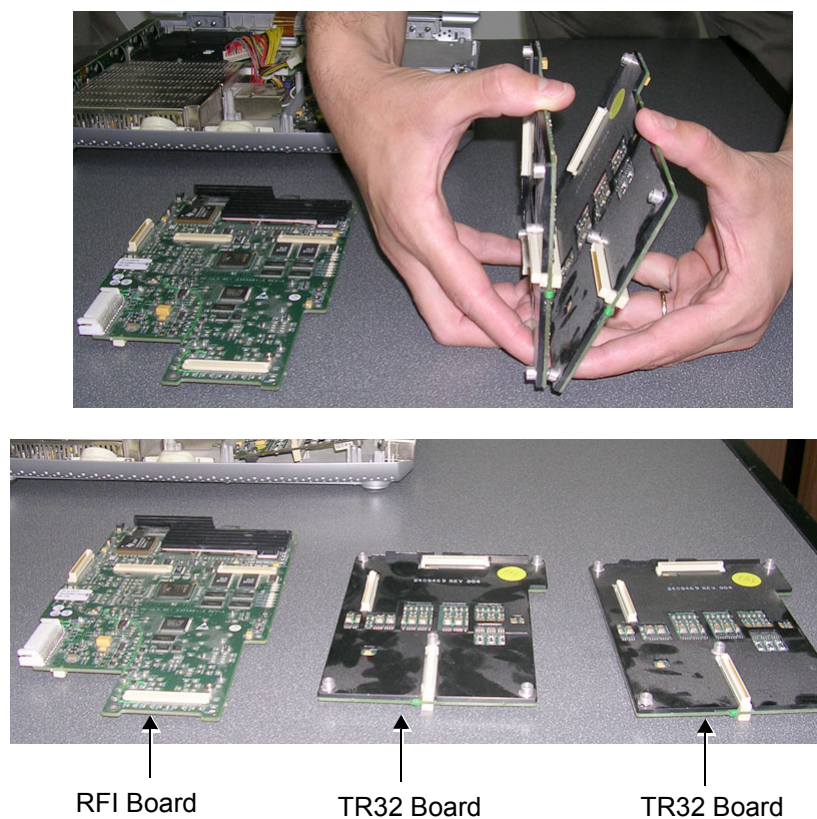

Figure 8-51 Separating the Two TR32 Boards from Each Other
- 10.) Separate the two TR32 Boards from each other, as shown in Figure 8-51 below.
- 1) Re-connect the two TR32 Boards to each other (gently press together as shown in Figure 8-51 on page 8-43).